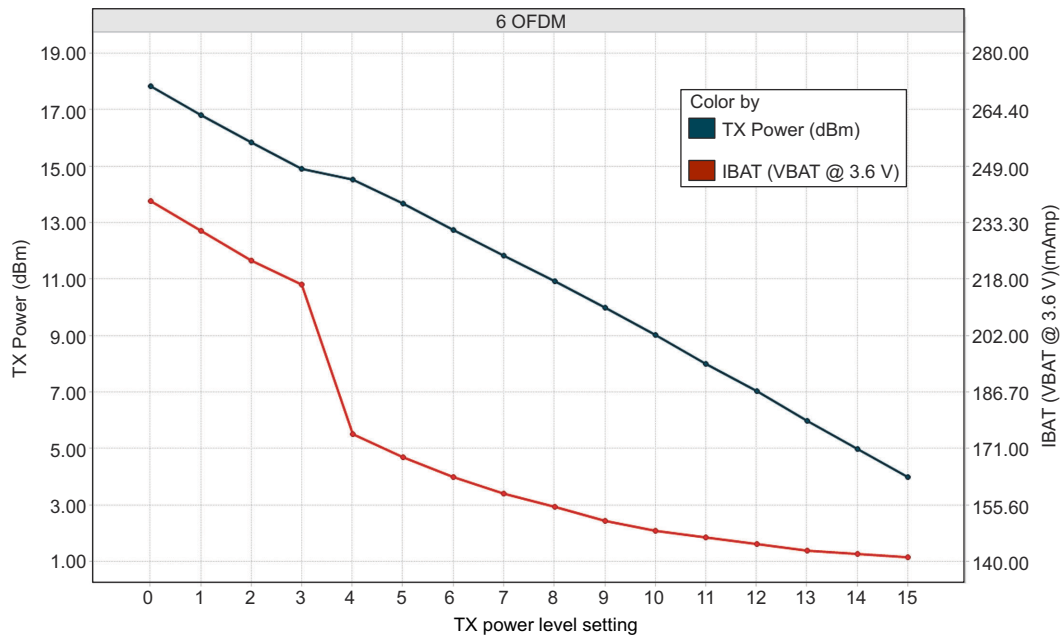
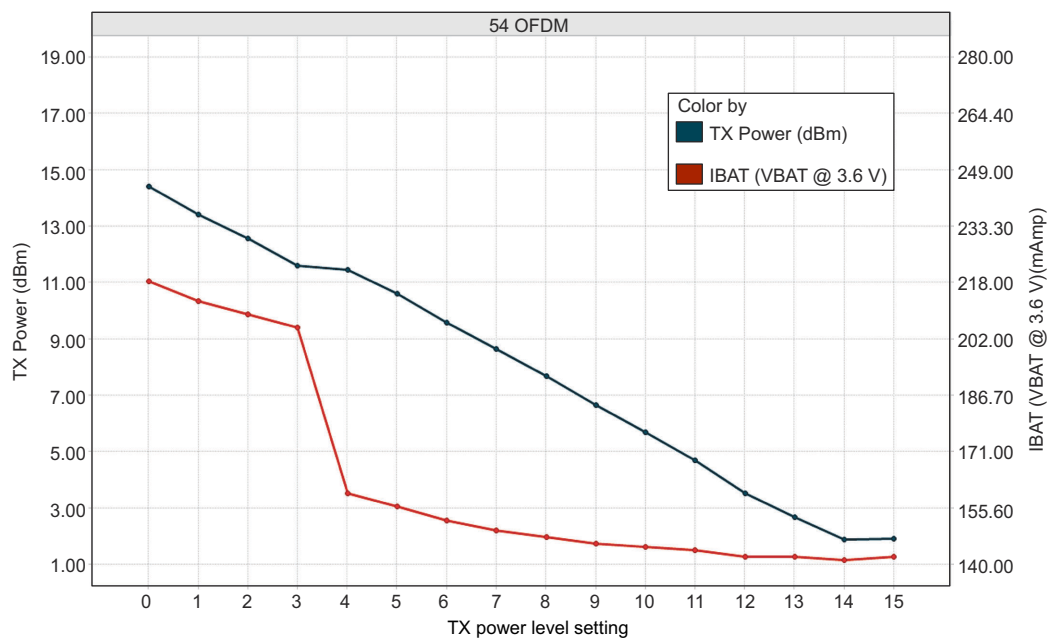

图 7-2. TX Power and IBAT vs TX Power Level Settings (6 OFDM)
图 7-3. TX Power and IBAT vs TX Power Level Settings (54 OFDM)
- (1) TX power level = 0 implies maximum power (see 图 7-1, 图 7-2, and 图 7-3). TX power level = 4 implies output power backed off approximately 4 dB.
- (2) DTIM = 1
- (3) The complete calibration can take up to 17 mJ of energy from the battery over a time of 24 ms. In default mode, calibration is performed sparingly, and typically occurs when re-enabling the NWP and when the temperature has changed by more than 20°C. There are two additional calibration modes that may be used to reduced or completely eliminate the calibration event. For further details, see CC3120, CC3220 SimpleLink™ Wi-Fi® and IoT Network Processor Programmer's Guide.
- (4) The CC3120R system is a constant power-source system. The active current numbers scale based on the VBAT voltage supplied.
- (5) For the 1.85-V mode, the hibernate current is higher by 50 μA across all operating modes because of leakage into the PA and analog power inputs.
- (6) The RX current is measured with a 1-Mbps throughput rate.